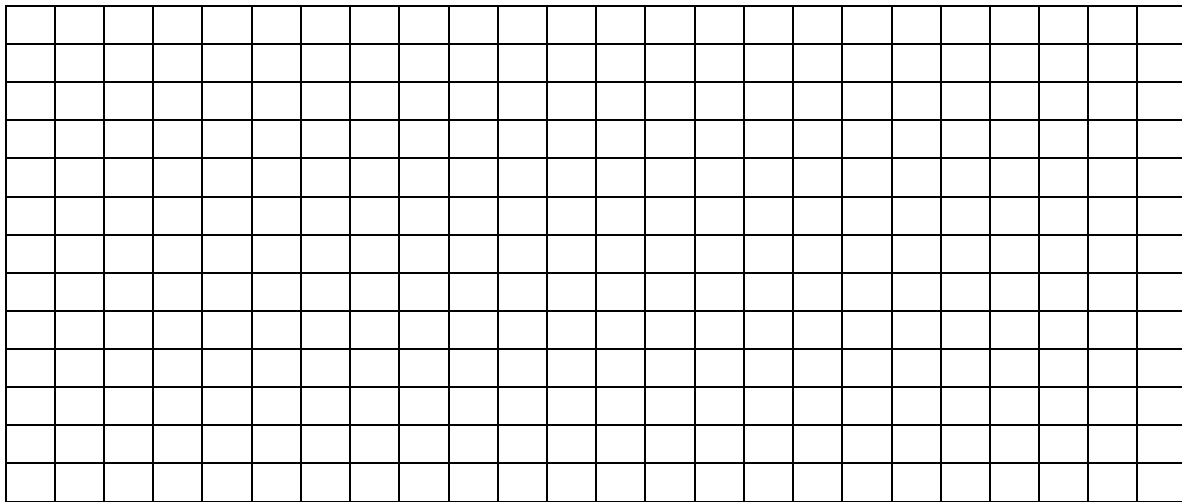

Fig 2.
- 5b) Sketch the waveform in Fig 2 below.